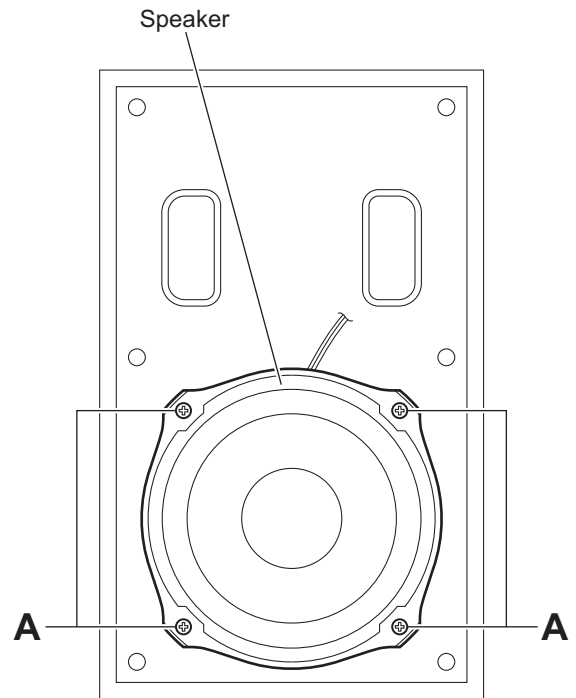

Fig.5
### 3.5.3 Removing the speaker (See Figs.5 and 6)
- From the front side of the speaker main body, remove the four screws **A** attaching the speaker. (See Fig.5.)